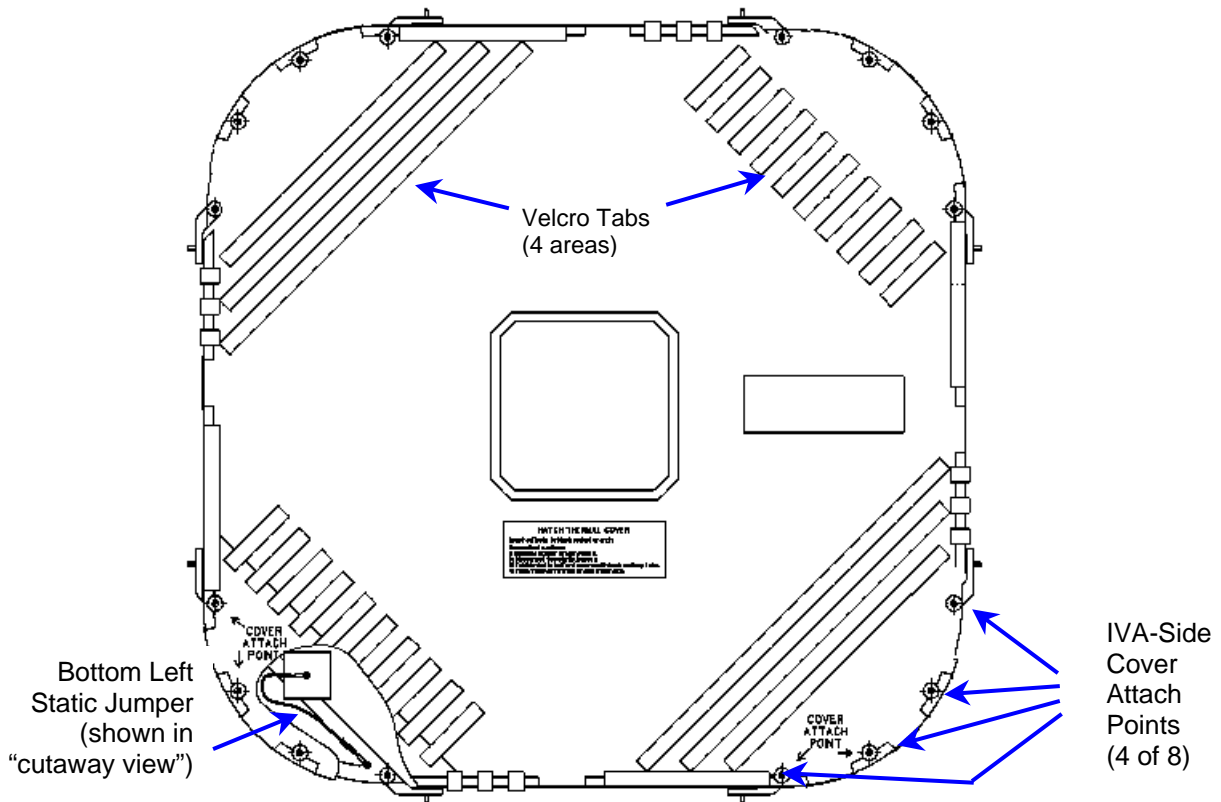

Figure 1.- IVA Side of Hatch Thermal Cover.
2. Hatch Thermal Cover is attached to four Corner Struts. Corner Struts are attached to Lab Fwd Hatchway. Cover Attach fasteners (four each corner) are accessed from IVA-side of Hatch. Corner Strut fasteners (two each strut) are accessed from EVA-side of Hatch. Refer to Figures 1, 2.
1. Remove deck IVA-side Cover Attach Point fasteners (eight) (Ratchet; 1/4" Drive; 4" Ext; 3/8" Socket). Refer to Figure 1, Cover decals labeled "Cover Attach Point."
Refer to Figure 1, Cover decals labeled "Cover Attach Point."